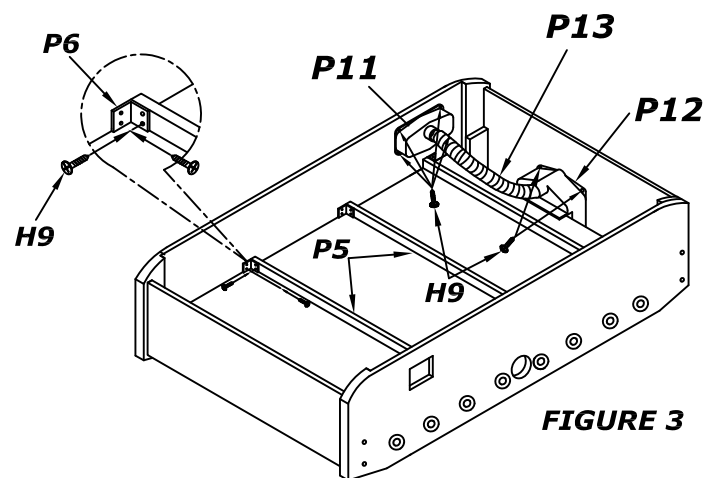

FIGURE 3
4. PLACE THE PLAYFIELD SUPPORT BRACES **P5** ON THE BOTTOM OF THE PLAYFIELD. ATTACH THE BRACES USING BRACKETS **P6** AND SCREWS **H9**. AS SHOWN IN **figure 3**. PLACE THE GOAL **P12** OVER THE HOLE IN THE END PANEL AND ATTACH USING SCREWS **H9**. PLACE THE BALL CATCHER **P11** OVER THE HOLE IN THE SIDE PANEL AND ATTACH USING SCREWS **H9**. SECURE THE BALL RUNNER **P13** BETWEEN EACH GOAL AND BALL CATCHER. SEE **figure 3**. (REPEAT ABOVE STEP FOR OTHER END OF TABLE)